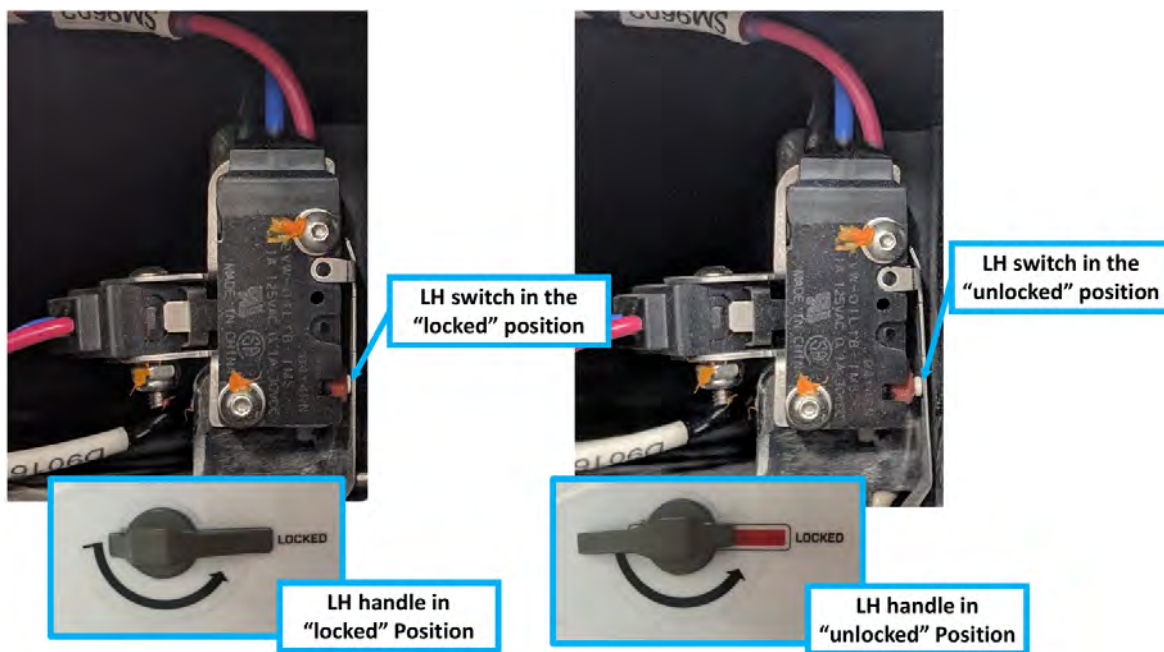

FIGURE 13-15
3. Verify the wing tip lock switch installation. Start with the wing tip lock in the "Unlocked" position. Rotate the lock handle to the "Locked" position. Verify the wing tip lock switch is engaged. The switch will click when it is fully engaged. Verify at the annunciator panel that "LOCK WING/TAIL" light is out. See Figure 13-15.